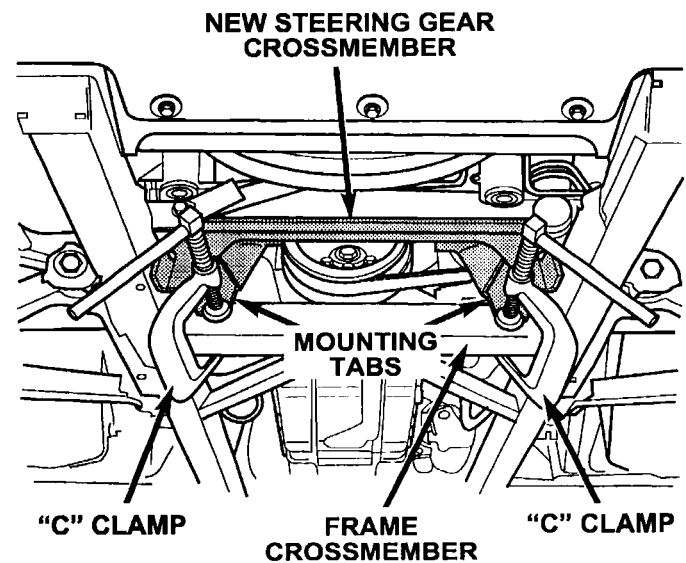

Figure 6
10. Using two "C" clamps, carefully clamp the new steering gear crossmember into position. Center the steering gear crossmember between the frame rails and use the measurements recorded in Step 5 to set new steering gear crossmember to the correct height (Figure 6).